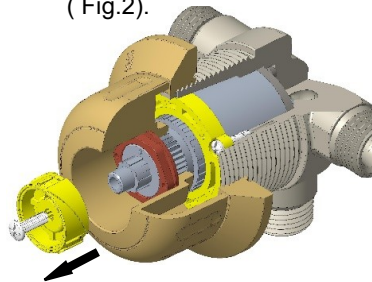

Fig .2
Step 2: Remove mounting screw and remove push button (Fig.2).